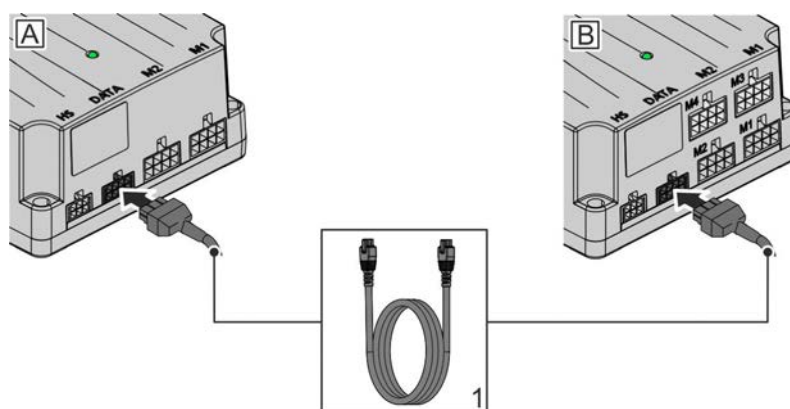

Figure 25 - Connecting control units
1. Connect the BUS cable (Figure 25/1) to the DATA interfaces on the control units (Figure 25/A + B).